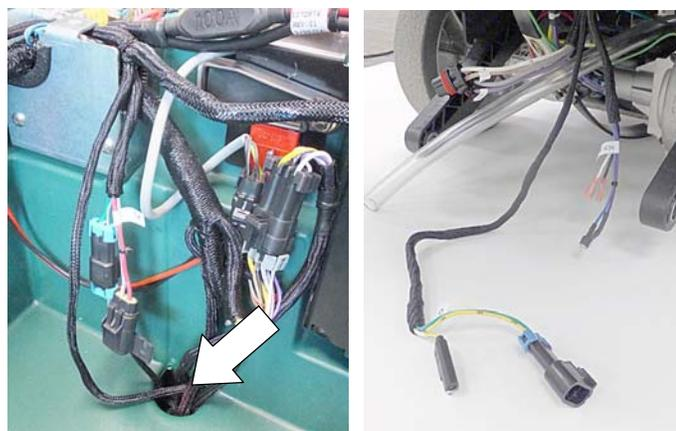

Fig. 14
- 12. Route the ec-H2O harness wires down through the access hole towards the scrub head area (Figure 14).